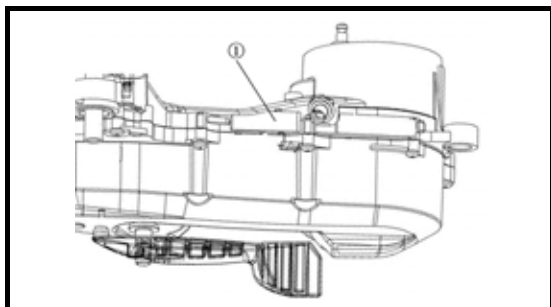

Figure 1-2
2. The engine series number ① is inscribed on the crankcase housing. See Figure 1-2.